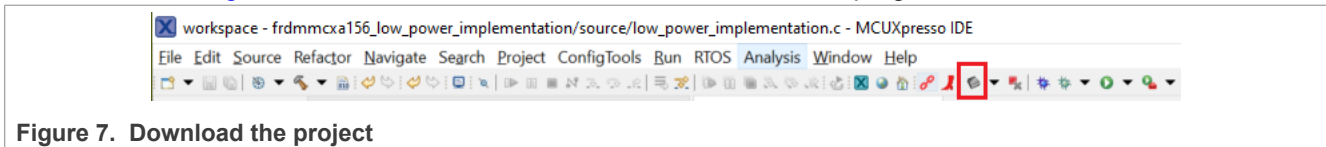

Figure 7. Download the project
- As shown in Figure 7, select the **GUI Flash Tool** from the toolbar to program the executable to the board.